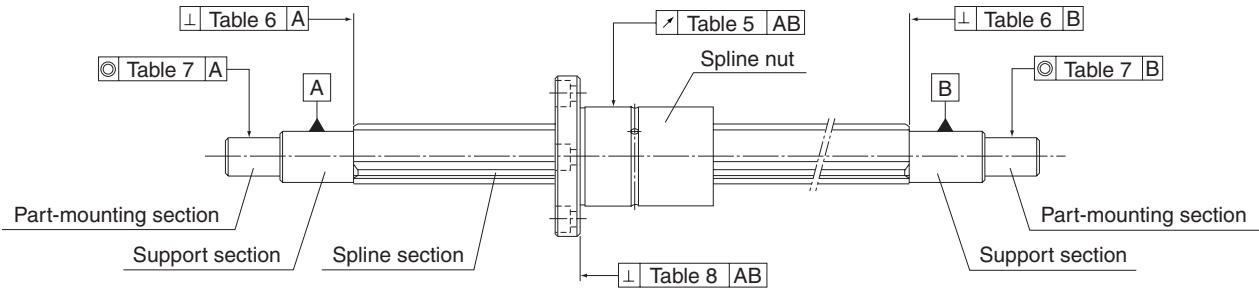

Fig.3 Accuracy Measurement Items for the Ball Spline
The accuracy of the Ball Spline is classified into three grades: normal grade (no symbol), high grade (H) and precision grade (P), according to the run-out of spline nut circumference in relation to the support of the spline shaft. Fig. 3 shows the measurement items.